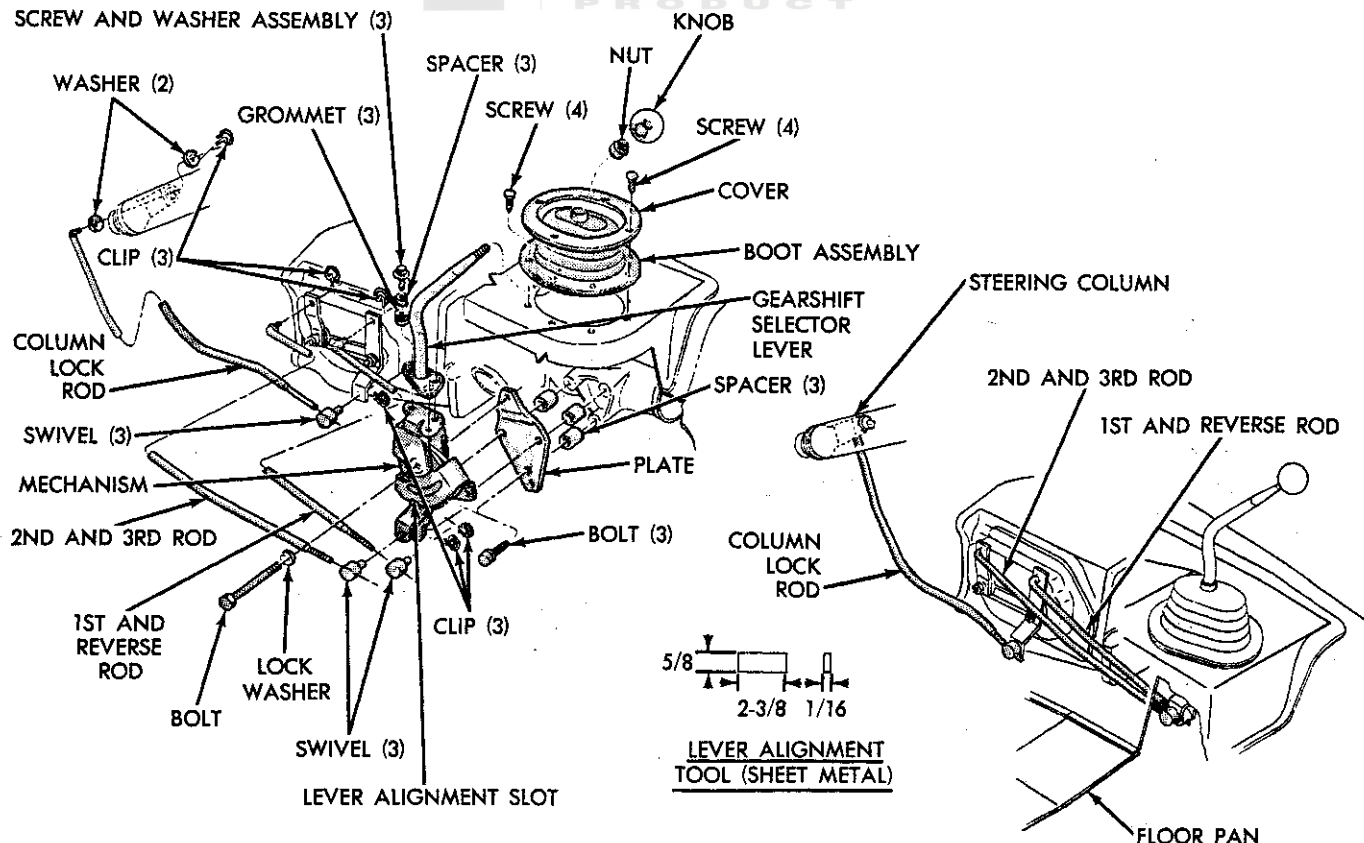

Fig. 46—Floor Shift—3 Speed (Dart)
Three Speed Floor Shift Mechanism (Figs. 46 or 47)
Installation and Adjustment (Figs. 46 or 47)
(1) Position shift mechanism on transmission extension housing mounting plate and secure with the three mounting bolts. (If equipped with lower boot, place boot on mechanism first and insert long mounting bolt through unit and boot before attaching to mounting plate).
(2) Fabricate a lever alignment tool from 1/16 inch thick sheet metal to dimensions shown in figures 46 or 47.
(3) Insert lever alignment tool into slots in levers and mechanism frame to hold levers in neutral cross-over position.
(4) Place transmission levers in neutral (middle detent) position and adjust shift rod swivels so rods will install freely to levers.
(5) Secure rods with proper washers and clips and remove alignment tool. (If so equipped, work flange